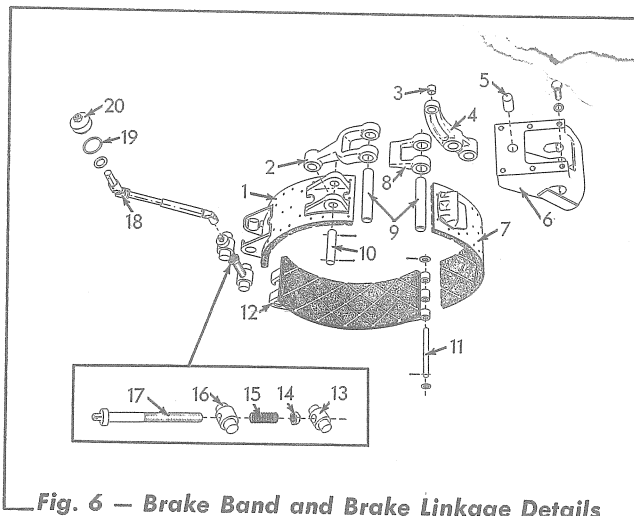

Fig. 6 — Brake Band and Brake Linkage Details
13. Remove the cotter pin from the outer end of the top band pin (Fig. 6) then remove the pin from the brake band assembly. Remove the band lever bracket with yokes, lever, and pins from the steering clutch compartment. Remove the brake top section band assembly from the steering clutch compartment.